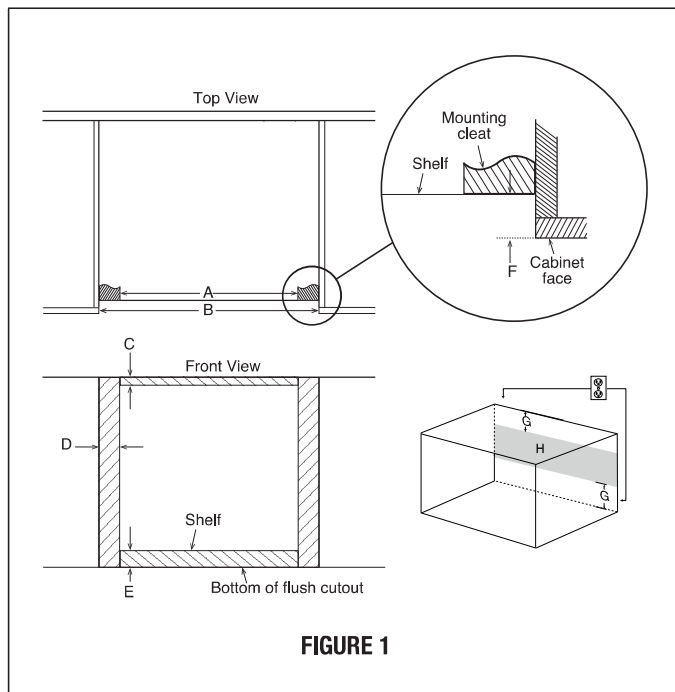

FIGURE 1
Provide an opening in the wall or cabinet as indicated in Figure 1. The depth should be a minimum of 20 1/8" (511.2 mm). If the Depth (E) dimension is greater than 21" (533.4 mm), the outlet location may be in any area on the rear wall. The floor of the opening should be constructed of plywood strong enough to support the weight of the oven (approximately 100 lbs/45 kg) and should be level for proper operation of the oven.
Outlet should **NOT** be in the shaded area as indicated on Figure 1.
Outlet should **NOT** be in the shaded area H as indicated in Figure 1.